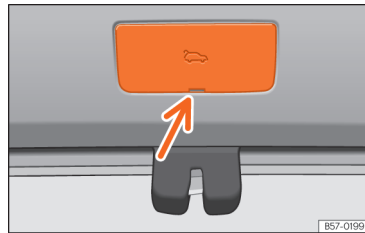

Fig. 63 Luggage compartment: access to manual release.
- Remove the cover using the key blade as a lever »» Fig. 63.